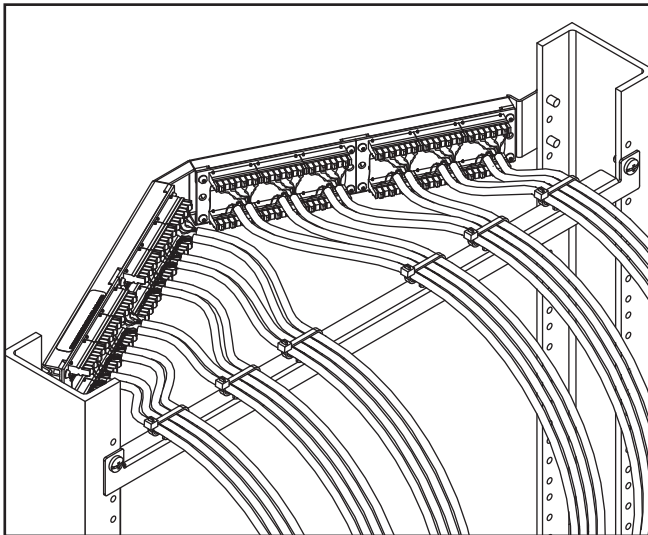

Figure 2
Step 3: Measure and cut to length (plus 1 ½" for stripping and termination) the cable to be terminated at the 110 module on the rear of the panel using sweeping bends. Strip the cable jacket back 1 ½" being careful not to nick or scrape the conductor insulation. See Figure 2.